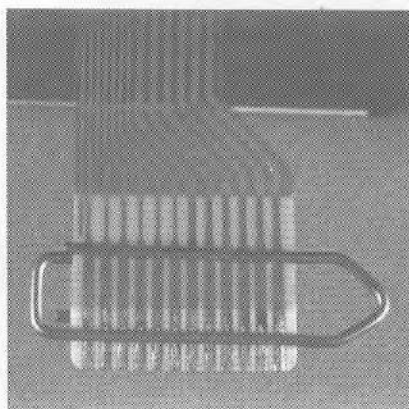

Fig. 1
2. Connect paperclip to CDM flexfoil to short-circuit flexfoil (fig. 1)